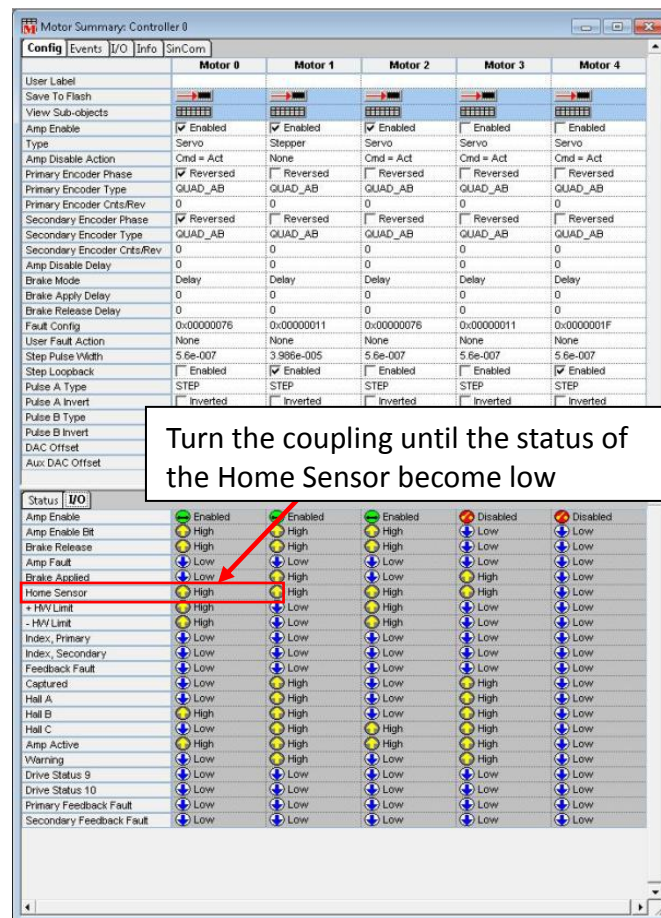

Figure 23 Motor Summary
33. Slowly rotate the X-axis coupling until see the status become “Low” at indicated at the “Home Sensor” as shown in Figure 23.